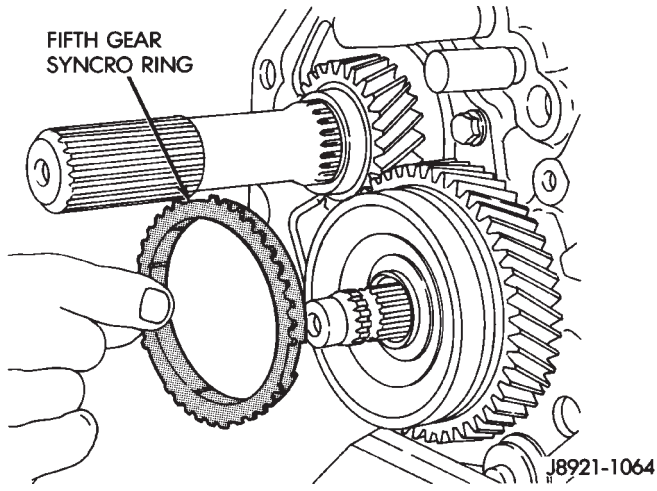

Fig. 34 Fifth Gear Synchro Ring Removal
(15) Remove fifth gear synchro ring (Fig. 34).